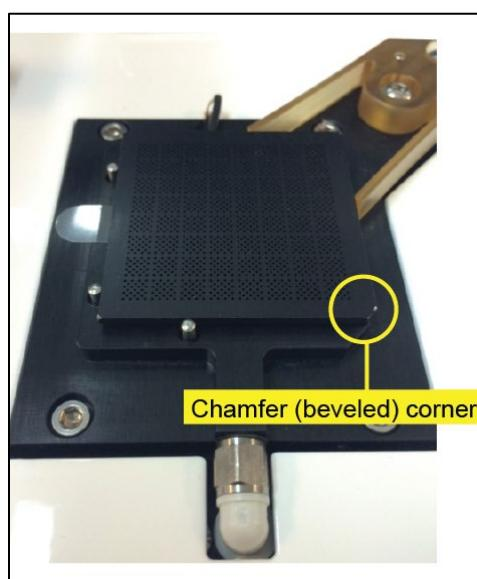

Figure 52. Positioning the sealed alignment chip on the SmartChip MSND.
- a. Turn the chip over so that the film is on the bottom. Place the chip on the dispensing platform of the SmartChip MSND, with the chamfer (beveled corner) on the lower right. Be sure that the chip is flat, the chamfer is in the lower right corner, and the chip sits snugly against the three alignment posts (Figure 52).